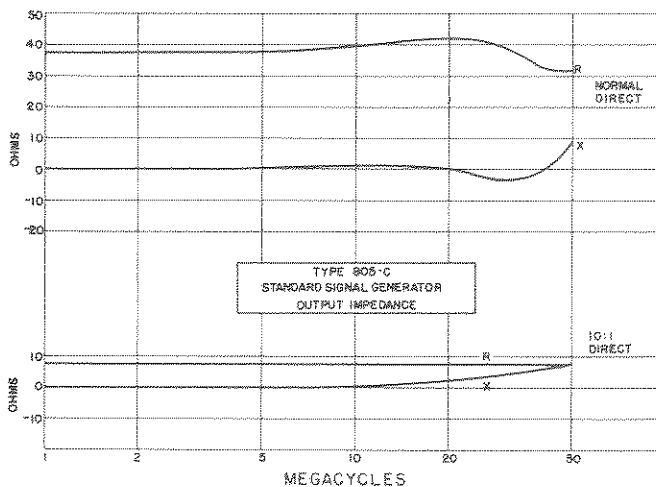

Figure 9. Frequency characteristic of output impedance at termination unit.
3.21 Residual inductance in the attenuator and shunt capacitance in the termination unit switch cause the output impedance at the termination unit to deviate at high frequencies from its low-frequency resistive value of 37.5 ohms. The output impedance as a function of frequency at the DIRECT output plug is given in Figure 9 for both the NORMAL and 10:1 positions of the switch. For the 100:1 position, the impedance varies in essentially the same way, but the resistance is reduced to 0.75 Ω .